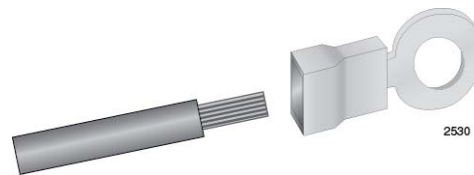

Figure 98. Attaching the Stranded Grounding Wire to the Grounding Terminal
2. Insert the grounding wire into the grounding terminal provided with the power supply and use a crimping tool to secure it to the grounding terminal. See Figure 98,